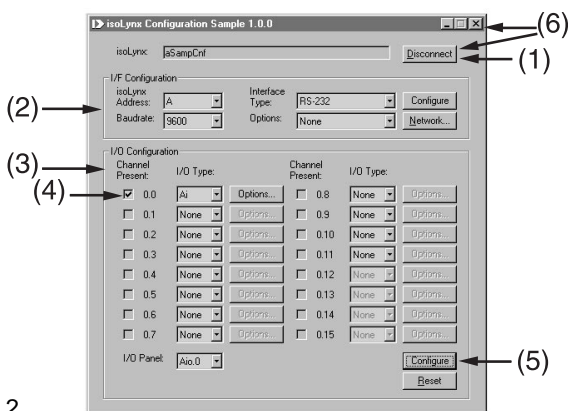

Figure 1.2
From the Demo folder run the isoLynx™ Configuration sample program Config.exe. Config will display a dialog box similar to Figure 1.2. Figure 1.2 shows the Configuration Sample dialog box as it appears after configuration, so some information and labels may have changed from the initial states.
(1) The button at the top right corner is labeled **Connect** or **Disconnect**. For information on the other options in this section, see the isoLynx™ Software User Manual. Clicking on **Connect** displays an isoLynx™ Connect dialog box. Clicking on **Connect** within that box triggers the Config program to make a serial connection to the isoLynx™ Analog I/O Base Unit. For information on the other options in the isoLynx™ Connect dialog box, see the isoLynx™ Software User Manual. After a short pause, the Connect dialog box disappears and the **Connect** button in the Configuration dialog box shows **Disconnect**.
(2) At this time, observe the information boxes in the I/F Configuration section are displaying the communication parameters, in particular, Baudrate: 9600 and Interface Type: RS-232. For information on the other options in this section, see the isoLynx™ Software User Manual.
(3) Observe the I/O Type boxes in the I/O configuration section have become activated. Observe the box labeled I/O Panel shows the designation: Aio.0, meaning: Analog I/O Panel 0. For information on the other options in this section, see the isoLynx™ Software User Manual.
(4) Click on the down arrow button of the I/O Type box next to the channel you have populated with a module. Select Ai from the pull down list. Note the Channel Present box now has a check mark.
(5) Click on the **Configure** button in the bottom right corner to send isoLynx™ its new configuration. Click **Yes** in the I/O Configure question box. After a short communication pause, the isoLynx™ Analog I/O Base Unit is now configured.
(6) Before running the Input sample program, you must **Disconnect** the Configure sample program. The example in Figure 1.2 has configured panel 0, channel 0. At this time, you may also click on **—** to minimize or **X** to close the Configuration dialog box.